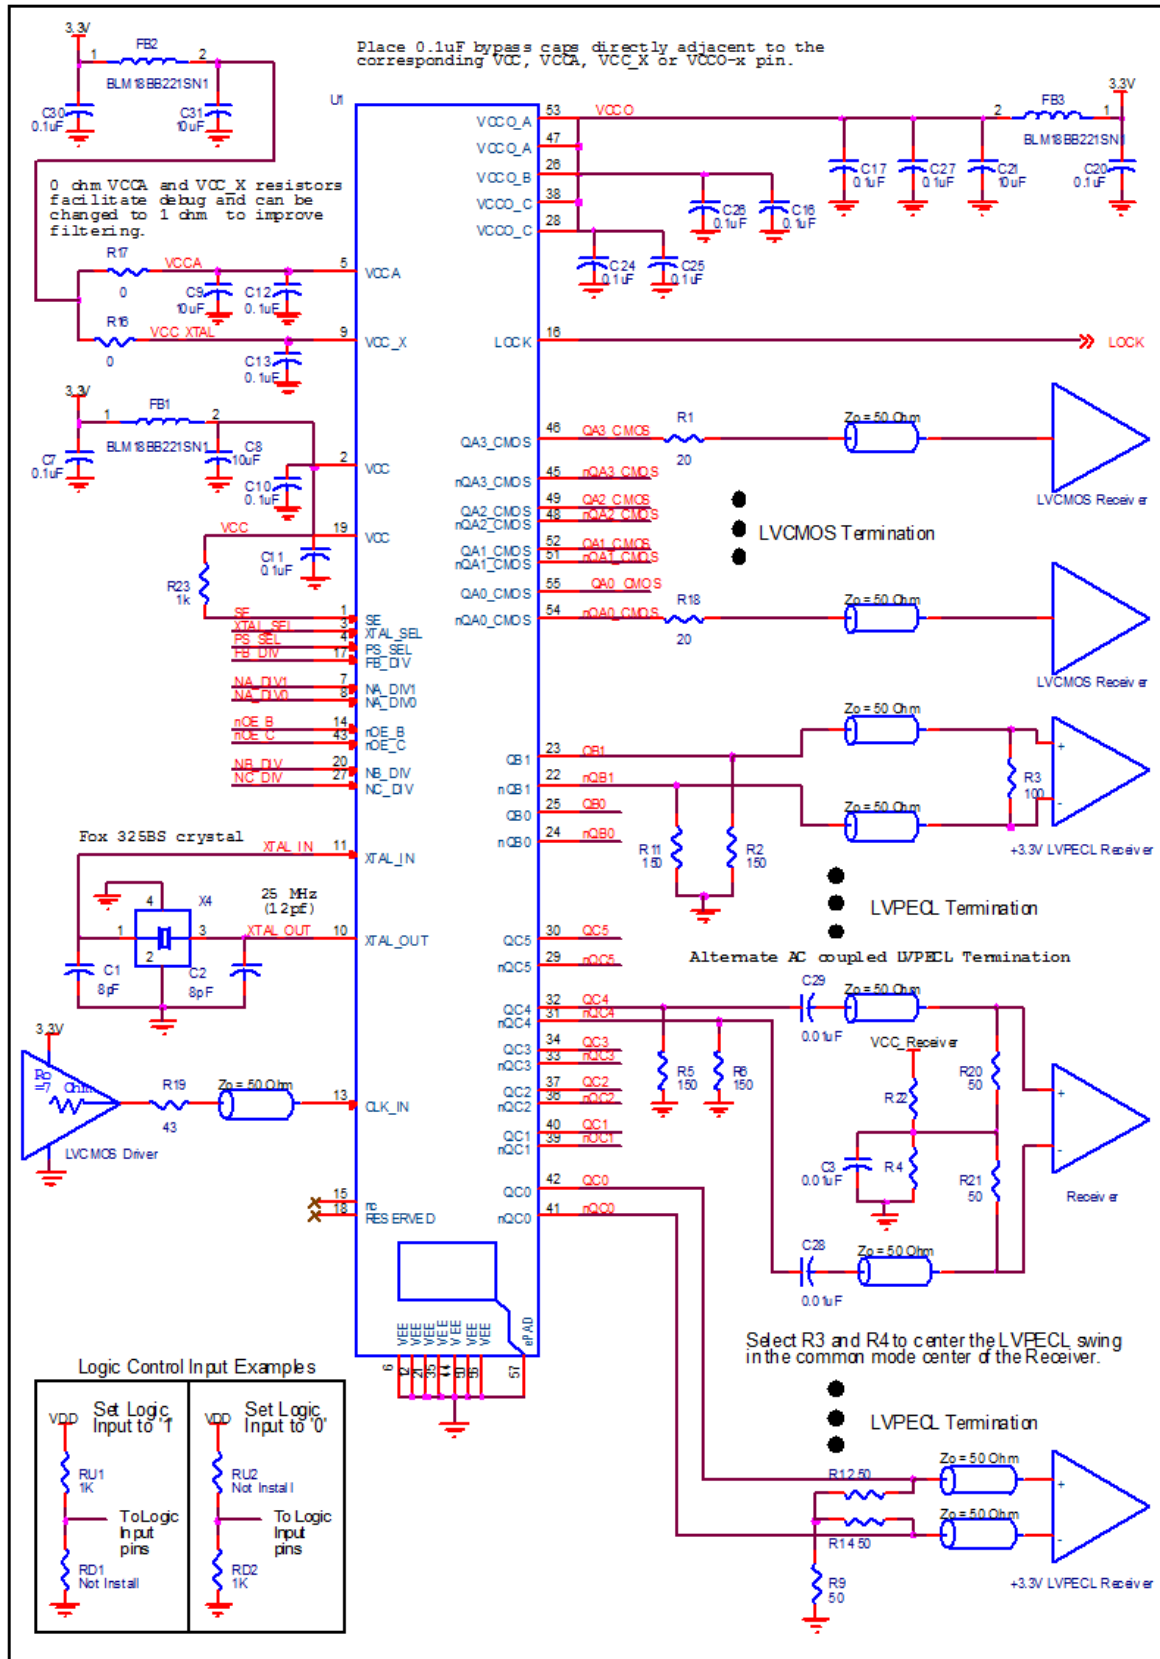

Figure 5. 8T49N012 Schematic Example
*Figure 5* (next page) is an 8T49N012 application example schematic. The schematic focuses on functional connections and is not configuration specific. Refer to the pin description and functional tables in the datasheet to ensure that the logic control inputs are properly set.